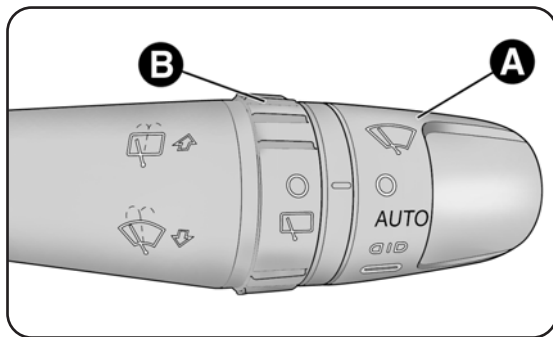

fig. 34
### WINDSCREEN WIPER/WASHER fig. 34
The sensor is activated by turning selector wheel A-fig. 34 to the automatic position (AUTO): in this way the windscreen wiper strokes are regulated in accordance with the amount of water on the windscreen. The frequency can vary between no strokes (no rain - windscreen dry) and the 2nd continuous speed (intense rain - windscreen wet).
The sensitivity of the rain sensor can be adjusted by operating selector wheel A-fig. 34.
- adjust the sensitivity (by turning selector wheel A-fig. 34 to increase or decrease).
This only operates with the ignition turned to MAR. The function stops when the lever is released. Turning selector wheel B-fig. 34 from position **O** to position  activates the rear screen wiper according to the following: